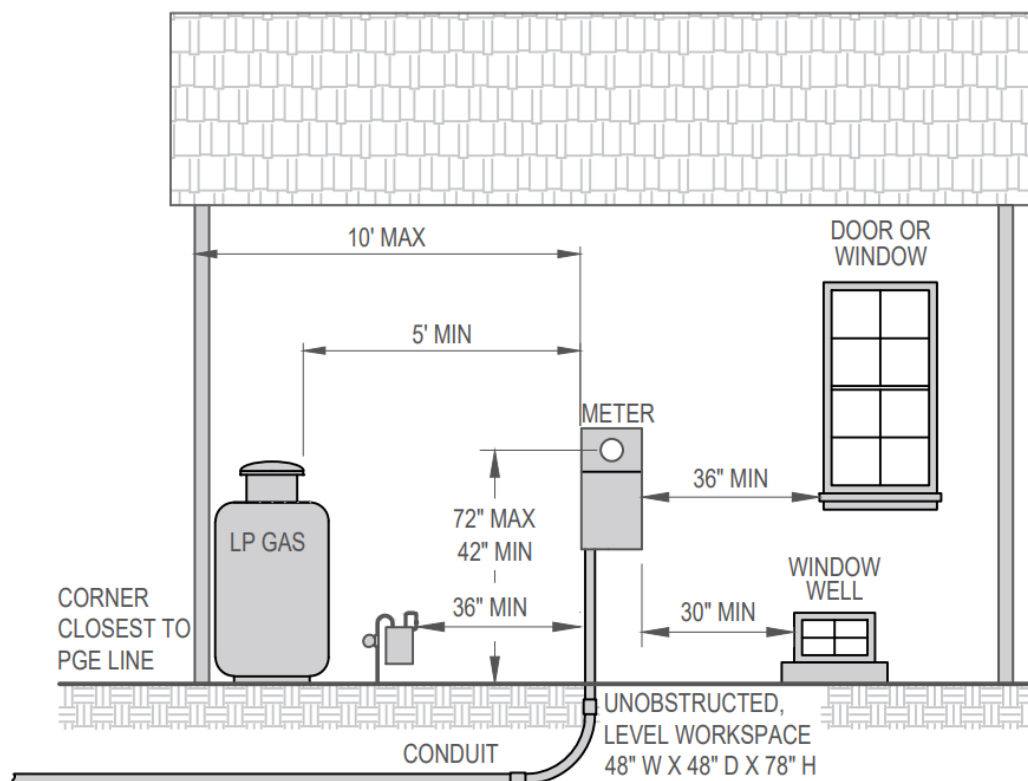

Figure 55. Underground Service Extension (STD-D-6004)
- The service entrance riser must be in line with the left side of the entrance knockout for 100A and 200A services. All three positions are accepted on a 320A meter enclosure (see Figure 55). For detailed clearance requirements, see Section 5.